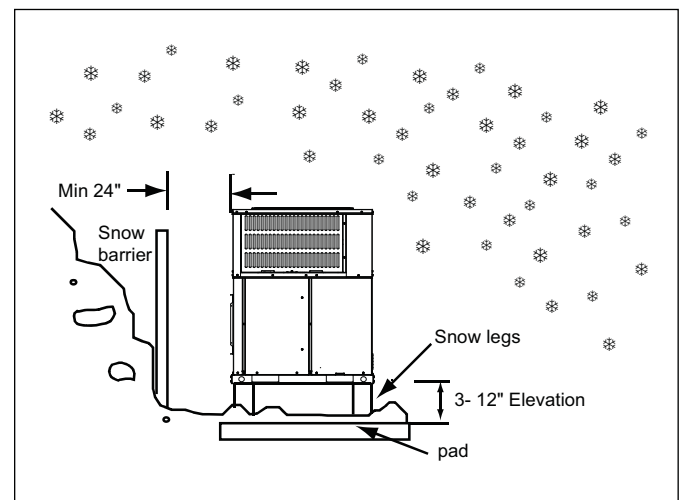

Figure 9 Insulation Layer
- ▶ Units should be elevated 3-12 inches above the pad or rooftop, depending on local weather. This additional height will allow drainage of snow and will permit condensate water to drain when the unit is in defrost mode. Ensure that drain holes in unit base pan are unobstructed, preventing drainage of defrost water (See Figure 9).